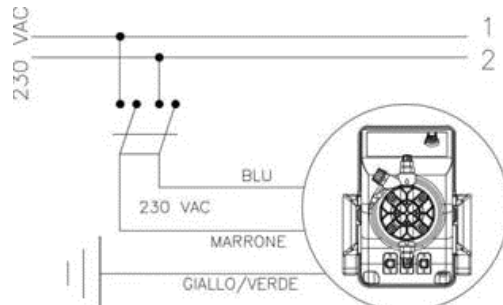

Fig. 4
1. ***Disconnect the pins from the mains or by means of a two poles switch with 3 mm minimum distance between the contacts. (Fig. 4).***
1. Disconnect the pins from the mains or by means of a two poles switch with 3 mm minimum distance between the contacts. (Fig. 4).
b. - Carefully observe the regulations in force in the various countries as regards electrical installations (Fig.4). When the supply cable is devoid of a plug, the equipment should be connected to the supply mains by means of a single-pole circuit breaker having a minimum distance of 3 mm between the contacts. Before accessing any of the electrical parts, make sure that all the supply circuits are open.